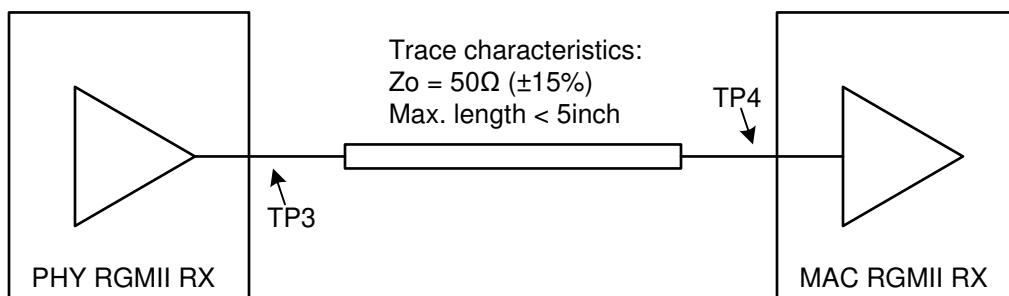

Figure 7-3. RGMII RX Requirements
- No damping resistors should be added at TP3/TP4, in Figure 7-3, as that will impact signal integrity of RX signals.
- Figure 7-3 shows a RGMII interface requirements for RX* signals. MAC RGMII driver output impedance should be 50Ω +/-20%.
- Signal Integrity at TP3 and TP4, in Figure 7-3, should be verified with IBIS model simulation and ensured conformance to following requirements: